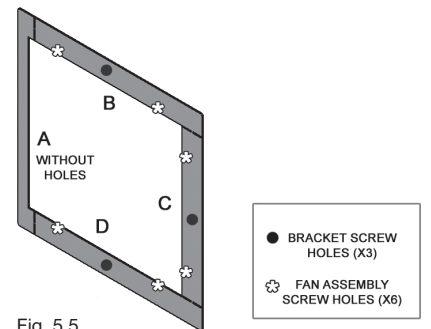
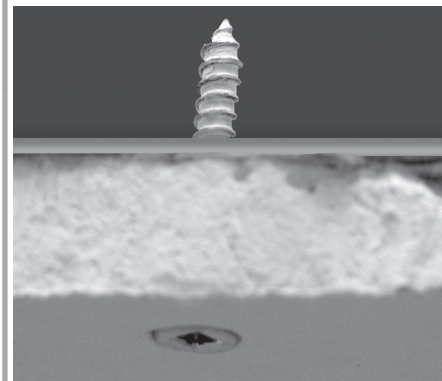

Fig. 5.5
Fig. 5.6
- Secure the mounting bracket to the ceiling by screwing 3 screws through the corresponding pencil marks on the bottom side of the finished ceiling (Fig. 5.5). Avoid countersinking the screws below the surface of the finished ceiling. (Fig. 5.6)
- Secure the mounting bracket to the ceiling by screwing 2 screws through the corresponding pencil marks on the bottom side of the finished ceiling (Fig. 5.5). The screws will penetrate the ceiling and then the bracket. Avoid countersinking the screws below the surface of the finished ceiling. (Fig. 5.6)